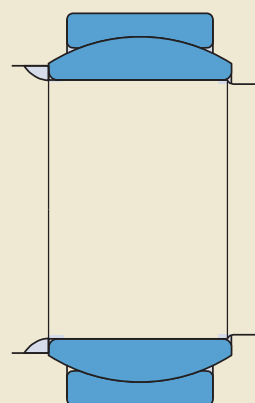

Fig. 18
- provide recesses or threaded holes in the housing bore (→ **fig. 18**)